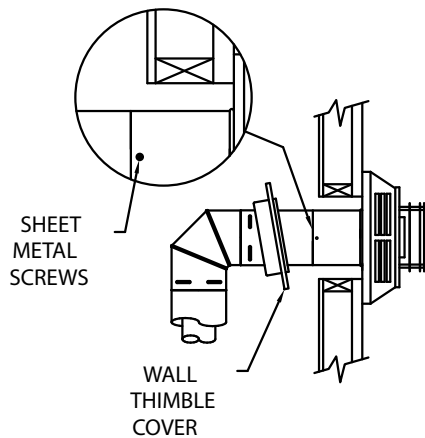

Figure 8
(2) For buildings with vinyl siding or other surfaces, the Vinyl Siding Standoff or Counter Flashing is available.
Step 5. Before connecting your horizontal Pipe Sections to the Horizontal Termination Cap, slide the Wall Thimble Cover over the Pipe Section nearest the interior side of wall (**Fig. 8**).
inserting the Pipe Section into the cap assembly. It is important that the Pipe Section extends into the back of the Termination Cap with a minimum overlap of 1-1/4 inches. Use the two sheet metal screws provided to secure the Pipe Section to the back of the Termination Cap. The Wall Thimble Cover will cover the screw heads (**Fig. 8**).